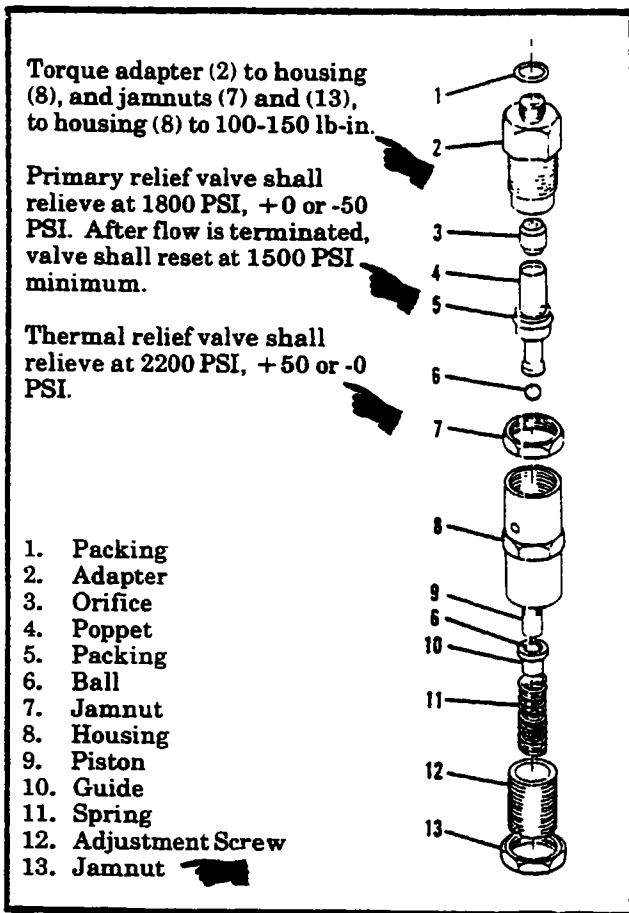

Figure 5A-4. Relief Valve Assembly
5A-14. INSPECTION. (Refer to figure 5A-4.)
5A-15. ASSEMBLY AND ADJUSTMENT. (Refer to figure 5A-4.)
- d. Tighten jamnut (7) against housing (8), and torque to 100-150 lb-in.
- e. Install one ball (6) into housing (8), so that it rests on poppet (4). Install piston (9) into housing (8), then install remaining ball (6) into end of piston (9).
- f. Insert guide (10) and spring (11) into housing (8), making sure that balls (6) and piston (9) remain in correct position.
- g. Turn adjustment screw (12) into housing (8) until it just contacts spring (11), then turn in one additional turn. Start jamnut (13) onto adjustment screw (12) and snug against housing (8).
- i. If adjustment of either relief valve is necessary, loosen jamnut (13) and turn adjustment screw (12) in to increase pressure or back adjustment screw (12) out to decrease pressure. Tighten jamnut (13) against housing (8) and torque to 100-150 lb-in. Recheck pressure adjustments.
- 5A-16. **INSTALLATION.** (Refer to figure 5A-3.)
a. Install relief valve assemblies (5) and (23) along with new packings (7) and (21) onto body assembly (19).